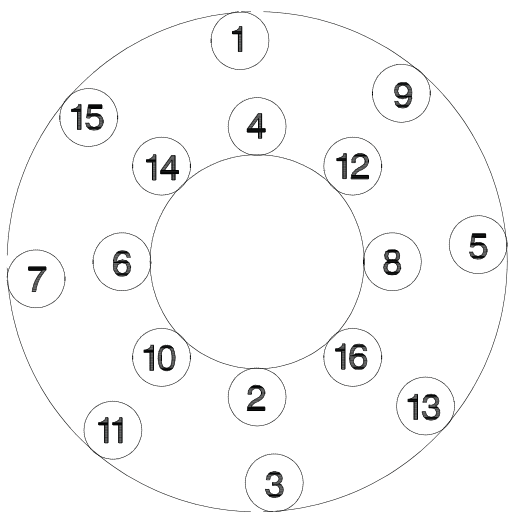

Figure 17
- 4.6.8 For each wear plate being replaced, follow the tightening sequence shown in **Figure 17** for the first 16 screws. The remaining screws may be tightened in any reasonable crosswise pattern. See Table 11 for tightening torque values.